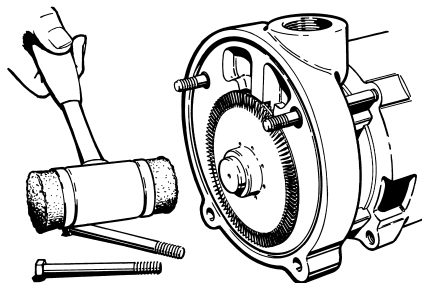

Figure 4-1
4. Remove the impeller (#11), refer to Figure 4-1. The impeller is a slip fit and, under normal conditions, can be removed by gently tapping on the end of the shaft sleeve with a mallet. Leave the impeller key (#23) in place. Striking the sleeve too hard could damage the seat or rotating element.